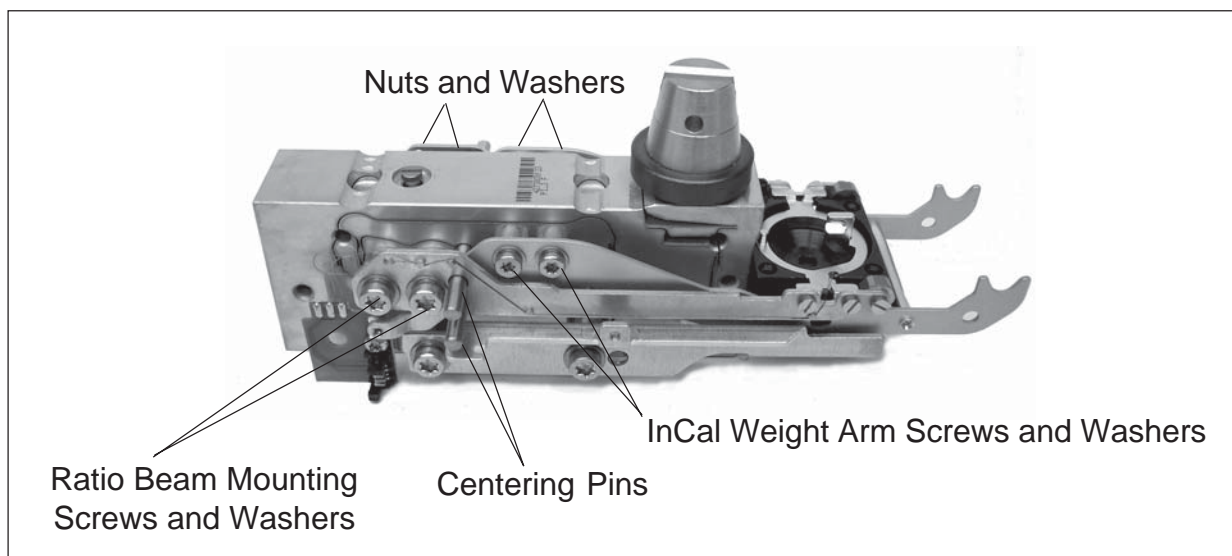

Figure 3-44. Ratio Beam and Weight Arm Components.
3. Insert the centering pins from the service tool set in the holes provided. See Figures 3-44 and 3-45.
4. Refer to Figures 3-44 and 3-45 and carefully loosen and remove the nuts on the Ratio Beam while holding the screw heads to prevent movement. This is very important!
6. Refer to Figures 3-44 and 3-48 and carefully loosen and remove the nuts on the InCal Weight Arm while holding the screw head to prevent movement. This is very important.
10. Insert the Centering Pins. See Figures 3-44 and 3-45.